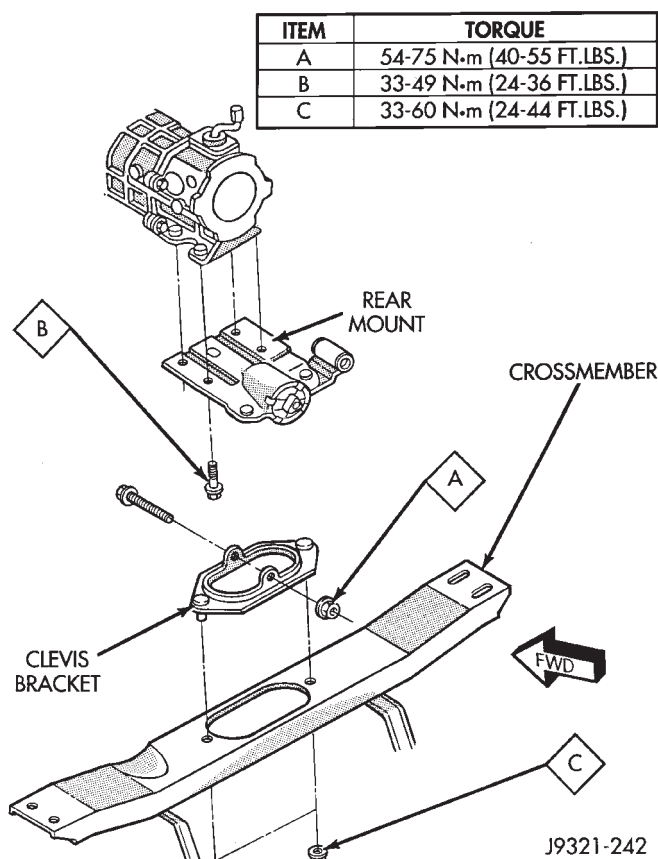
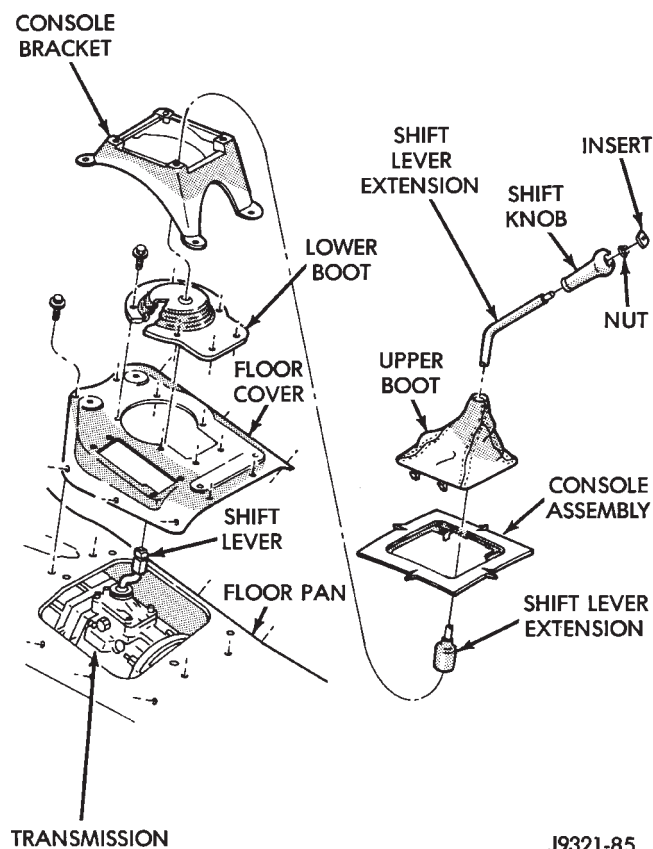

Fig. 2 Transmission Rear Mounting
Fig. 3 Shift Lever Attachment
- (5) Disconnect transfer case shift linkage from shift lever, or range lever.
- (6) Disconnect wire harness from distance sensor.
- (7) Remove harness wires from clips on transmission case.
- (8) Disconnect transmission and transfer case vent hoses.
- (9) Disconnect wires at transfer case electrical switch.
- (10) Support transmission with transmission jack. Secure transmission on jack with safety chains.
- (11) Support engine with jack positioned under clutch housing or oil pan flange.
- (12) Remove bolts/nuts attaching rear mount to crossmember (Fig. 2).
- (13) Remove rear crossmember.
- (14) Remove transfer case attaching nuts and remove transfer case from transmission.
- (15) Lower transmission enough to provide access to shift lever.
- (16) Reach up and around transmission case and unseat shift lever dust boot from transmission shift tower (Fig. 3). Move boot upward on shift lever for access to lever retainer.
- (17) Disengage transmission shift lever as follows:
- (c) Lift lever and retainer out of shift tower (Fig. 3). **It is not necessary to remove shift lever from floorpan boot. Simply leave lever in place for later installation.**